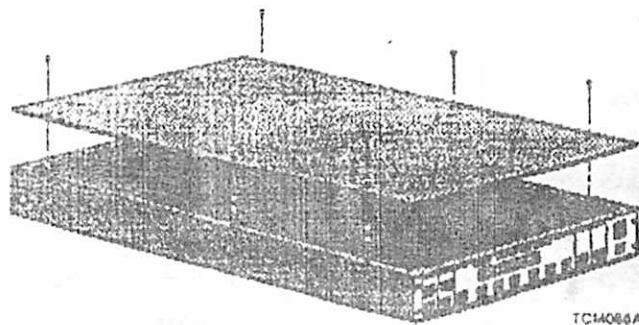

Figure 1. Removing Top Cover
3. Remove the six phillips screws holding the top cover to the chassis. Remove the top cover. (Figure 1)